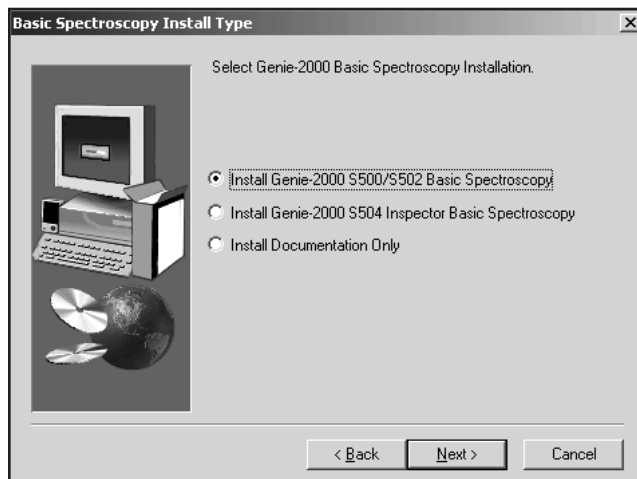

Figure 202 Selecting the Installation Type
3. Follow the instructions on the next few screens. When you're asked to select the Installation Type (Figure 202), accept the default selection, **Install Genie 2000 S500/S502 Basic Spectroscopy**. The other option, "Install Genie 2000 S504 Basic Spectroscopy", is used only with Genie supported InSpector-type MCAs.